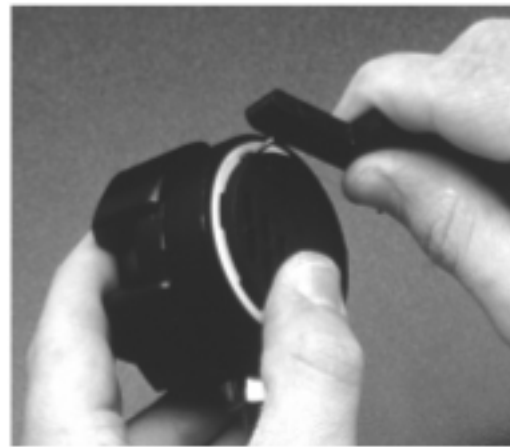

Figure 54 - Installation of retaining ring
- 2a. **(LH Model)** - Install the O-ring (10) securely into the groove of the cap plug (9). Thread the cap plug clockwise into the female threaded end of the valve body (23). Apply a torque wrench with 5/32" hex key to tighten the cap plug to a torque measurement of **30 ± 3 inch-lbs.**
- 2b. **(RH Model)** - Install the O-ring (10) securely inside the groove between the female threaded end of the valve body and the box bottom. Thread the cap plug (9) clockwise into the valve body, and apply the blade of the Micra Retaining Ring Tool (PN 100188) to tighten the cap nut snug, so that it is seated flush against the box bottom.
3. While holding the box bottom secure, apply a torque wrench with 13/16" socket (LH) or 3/4" socket (RH) to tighten the hex nut snug to a torque measurement of **45 +/- 2 inch-lbs.**
5. Install the diaphragm (4) into the box bottom with its raised center facing up, and check to ensure it is evenly seated onto the shoulder at the base of the threads.
6. Place the purge cover (3) directly over the diaphragm, and rotate it as needed to align the holes horizontally straight.
7. After rinsing the retaining ring in soapy water, fit the retaining ring (2) down over the purge cover with the slotted side facing up, and apply one pin of the Micra retaining ring tool (PN 100188) to one of the slots. While holding the purge cover securely in place, turn the retaining ring clockwise until it is lightly snug (see Figure 54). Check to ensure that the purge cover has not rotated and correct if necessary before applying both pins of the tool to tighten the retaining ring completely snug. Slight rotation of the purge cover is not critical.